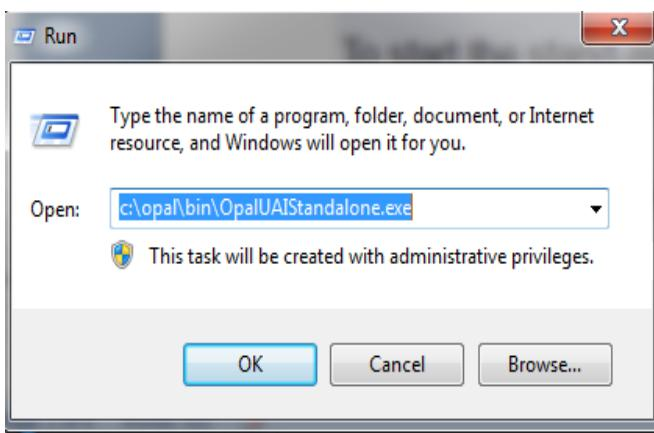

Figure 18: Run Command
1. Run Command enter `c:\opal\bin\OpalUAIStandalone.exe` – Figure 18